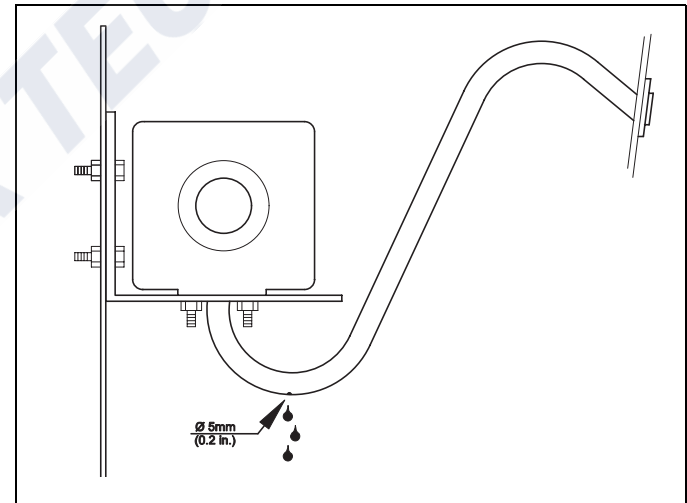

Fig. 13: Combustion air intake from outside through a exhaust through hull.
- Ensure downhill routing from the heater unit or drill a 5 mm dia. condensed water opening at the lowest point or use a separate condensed-water drain, see Figure 13.